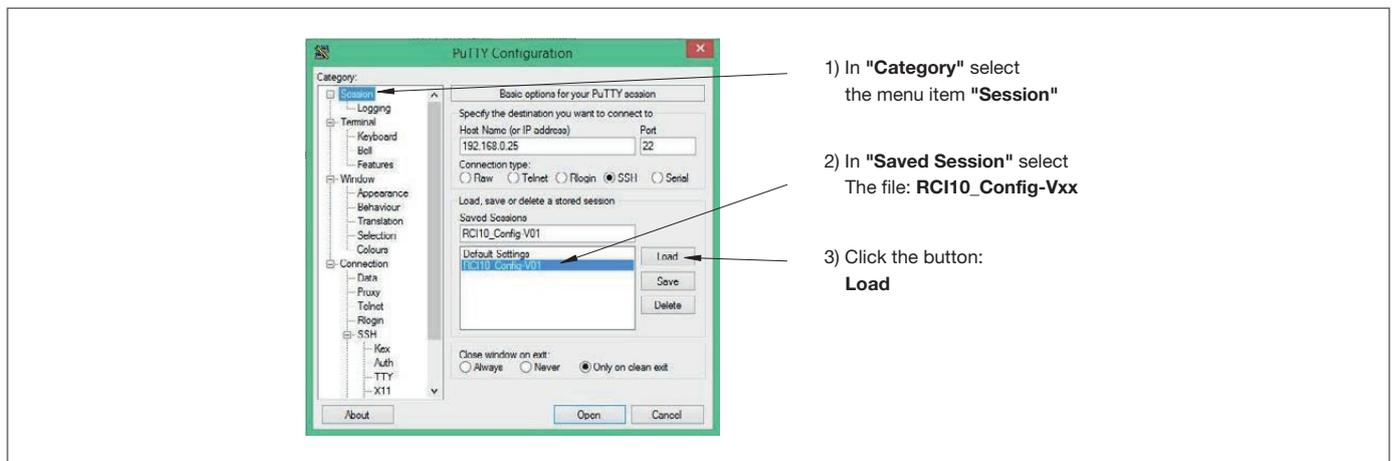

fig. 7: IP configuration ¹LePutty®
1. Start the programme by clicking on the programme icon ¹Putty®. Carry out the steps 1 to 3 on right side of fig. 7; IP configuration ¹LePutty®.
- Mark the menu item **Sessions** in »Category«, see fig. 7, IP configuration ¹LePutty® above.
If you changed the IP address of the R sub-assembly, you are no longer able to open the RCI10 SSH surface. For this purpose you have to enter the changed RCI10 IP address also in the ¹LePutty© programme, see ¹LePutty© window, fig. 7, IP configuration¹LePutty© »Host Name (or IP address)«. Save the change with button »**Save**« in the ¹LePutty© window.